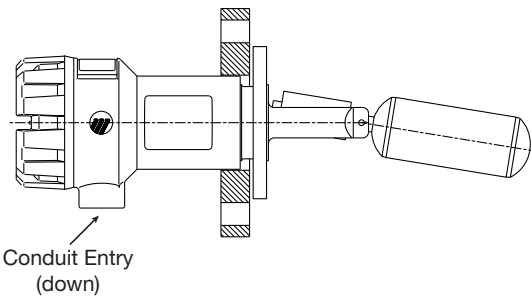

Figure 3
3. Carefully align Tuffy flange raised face (cladding) with the face of the vessel mounting flange. Slide the flange on the control to the vessel mounting flange and align bolt holes. Ensure that the conduit entry is pointing down. **See Figure 3.**